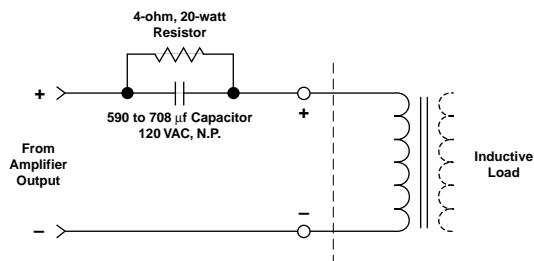

Fig. 3.12 Inductive Load (Transformer) Network
Another way to prevent the amplifier from activating its protection systems early and also protect the inductive load from large low-frequency currents is to connect a 590 to 708  $\mu\text{F}$  nonpolarized capacitor and a 4 ohm, 20 watt resistor at the output of the amplifier and in series with the positive (+) lead of the transformer. This is depicted in Figure 3.12 on the next page.
*Note: The components shown in Figure 3.12 are commonly available from most electronic supply stores.*